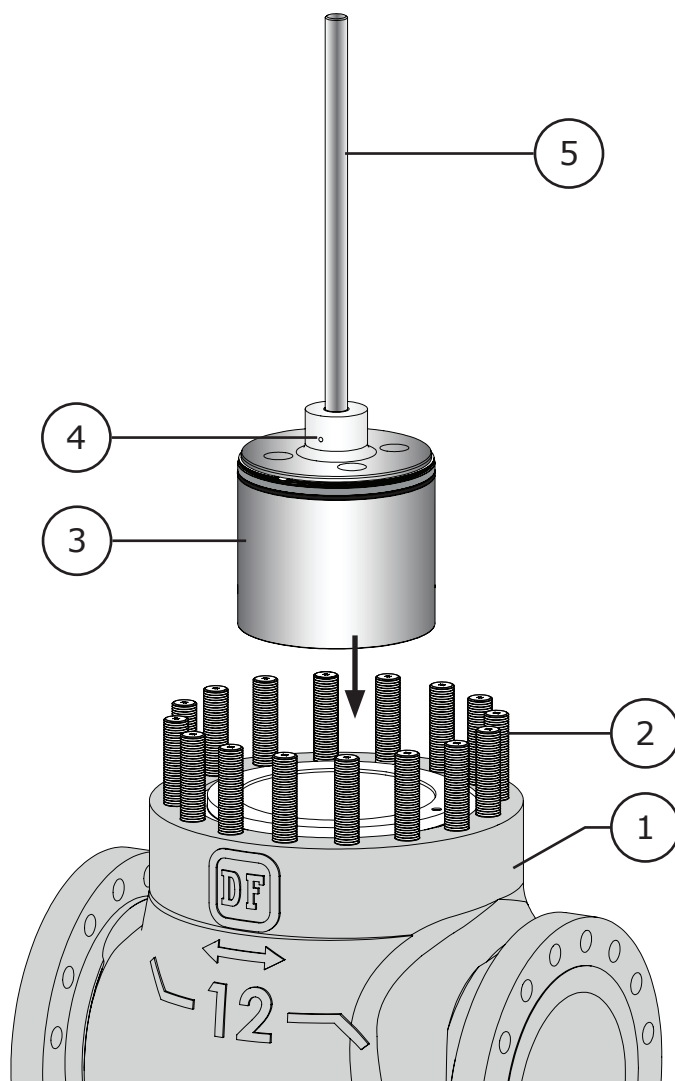

Figure 25 Bonnet Installation (Step 1)
- 1 Install the plug/stem assembly (Key 3, 4, & 5) that was assembled in the Plug Seal Assembly section (Page 14). Refer to Figure 25.